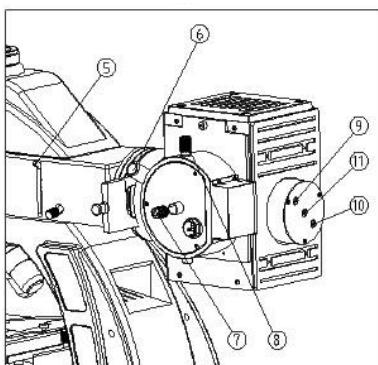
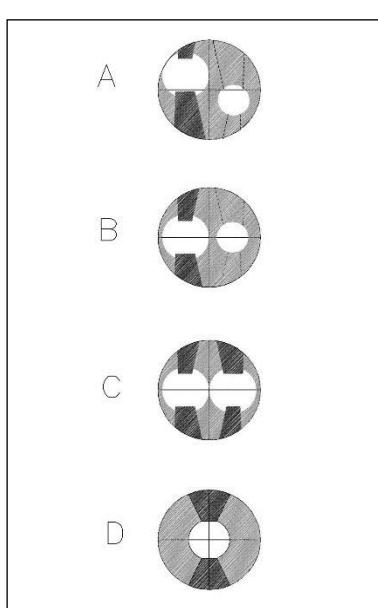

Fig. 21
Fig. 22
Slide the field diaphragm adjustment lever ⑤ (Fig. 21) to the top position. This opens the field diaphragm to its maximum position.
Adjust the condenser focusing knob ⑥ (Fig. 21), the vertical adjusting knob ⑦ of mercury bulb, and the horizontal adjusting knob ⑧ of mercury bulb to make the bulb image on the "+" scale of the slide ⑪. (Fig. 22 A)
Adjust the knob ⑪ of the parabolic mirror to focus, the horizontal centering knob ⑨, and the vertical centering knob ⑩ to make the bulb mirror image on the "+" scale of the slide ⑪. (Fig. 22 B)
Adjust the knob ⑨ and ⑩ to make the bulb image and bulb mirror image symmetrical to the "+" scale of the centering slide ⑪. Adjust the knob ⑪ to make both images the same size. (Fig. 22 C)
Adjust the screw ⑦ and ⑧ to make the two images superpose on the center of "+" scale. (Fig. 22 D)